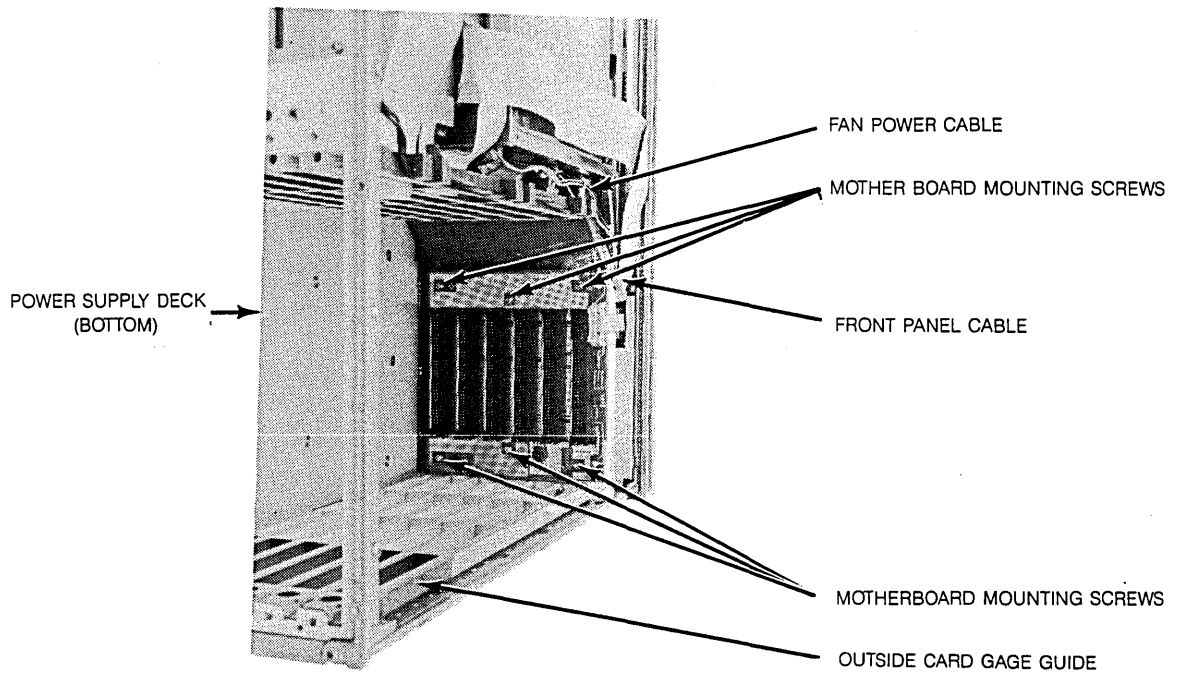

Figure 6-38. Mother Board Removal
- f. With a Torx T-10 driver, remove the six mother board mounting screws. Lift the board from mainframe through the bottom of the instrument (see figure 6-38).